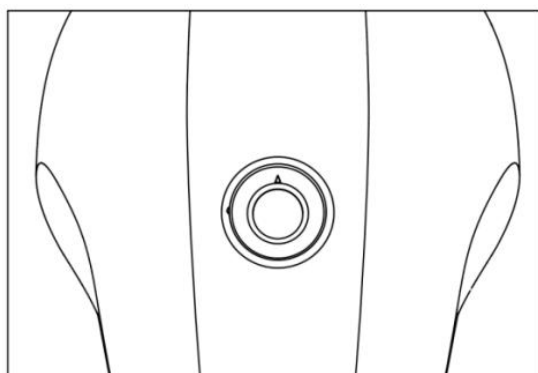

Figure 9
4.7. Opening method of fuel tank cap (Figure 9)